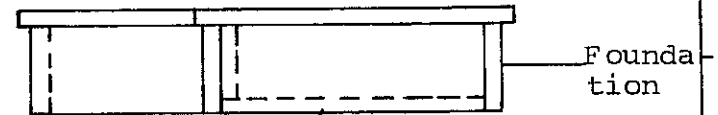

FIGURE 23
- 48) The false bottom assembly is described in Figure 23.